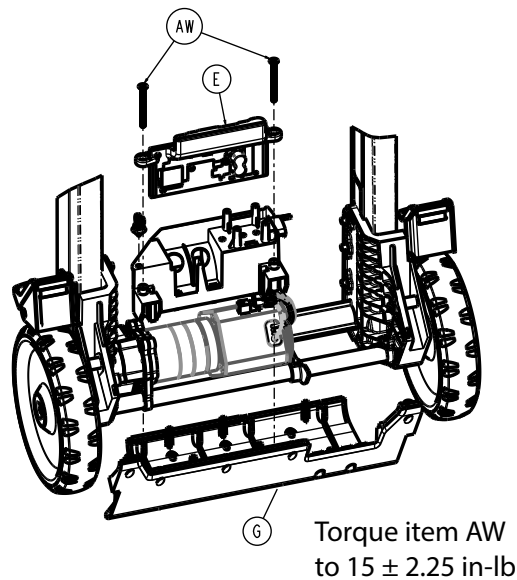

Figure 7 –
3. Using a 1/8" hex wrench, remove the two flat countersunk head cap screws (AW) that secure the power box PCBA (E) to the power box lower cover (G) (Figure 7). Discard the power box lower cover. Save the screws.